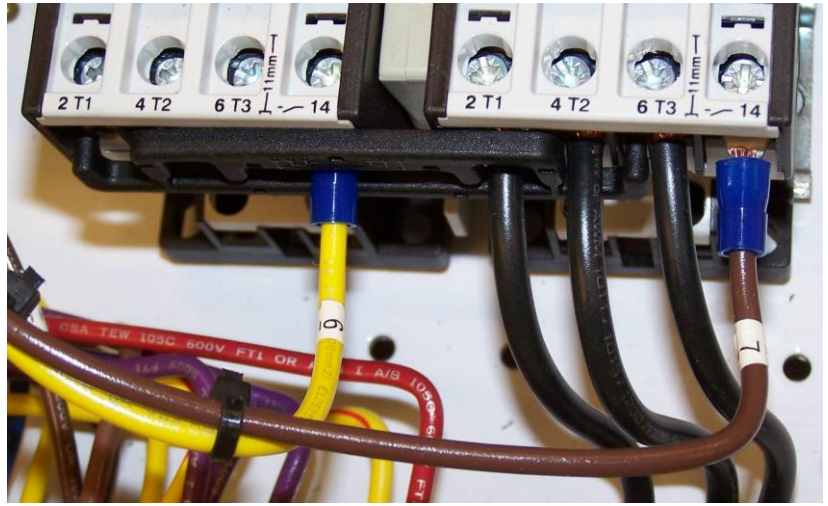

Figure 11
6. The Yellow wire labeled #6 connects to the "REVERSE" contactor terminal "NO" lower position (Figure 11).
7. The Brown wire labeled #7 connects to the "FORWARD" contactor terminal "NO" lower position (Figure 11).